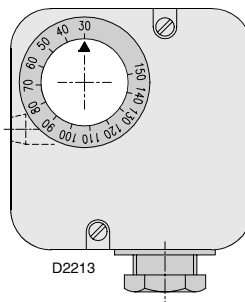

Fig. 22
- adjust the maximum gas pressure switch (Fig. 22), on the butterfly valve, at the end of the scale;